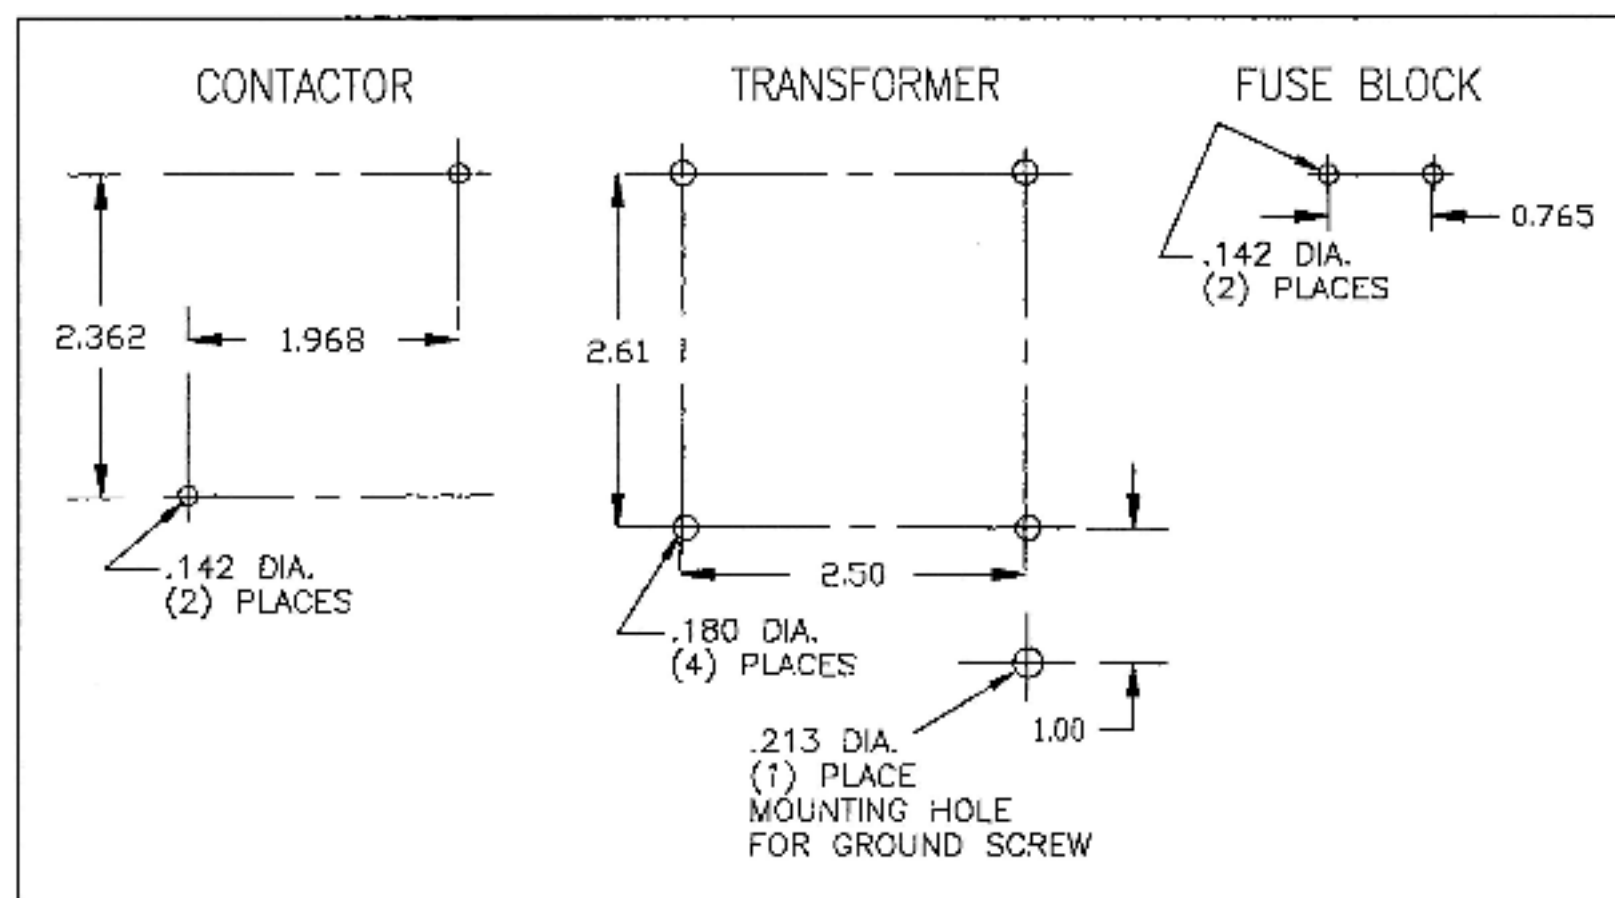

Figure 1. Contactor, Transformer, and Fuse Block Mounting Hole Dimensions.
1. Mount the contactor, transformer, and fuse block in a user-supplied enclosure that meets all applicable codes. (Refer to Figure 1.)
- b. Mount the contactor: In the selected mounting location, drill two holes as detailed in Figure 1. Mount the contactor with the two (2) M4 x 20 TTS screws provided.
- c. Mount the transformer: In the selected mounting location, drill four holes as detailed in Figure 1. Mount the Transformer with the four (4) M5 x 10 TTS screws provided.
- d. Mount the fuse block: In the selected mounting location, drill two holes as detailed in Figure 1. Mount the fuse block with the two (2) M4 x 10 TTS screws provided.